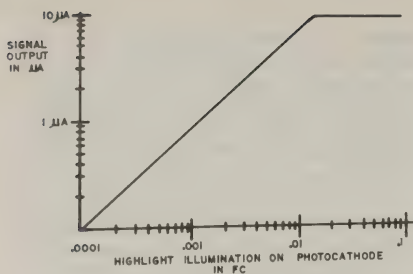

Fig. 1 Light Transfer Curve
**TRANSFER CURVE:** One of the peculiar characteristics of the IO is its light transfer characteristic curve. Fig. 1 shows the signal output versus high light illumination on the photocathode. Most IOs have a very pronounced "knee", the point after which the signal output stays constant, regardless of further increase in the illumination. To the writer's knowledge the only exceptions are the tubes having thin semiconductor ( $MgO$ ), rather than glass targets. Their "knee" is more rounded.